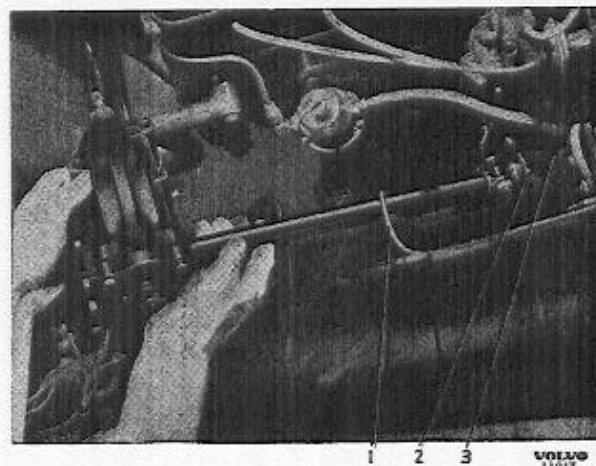

Fig. 24. Removing the steering box.
5. Lift up and turn the steering box as shown in Fig. 24. Pull out the horn lead (3) from the lower section of the steering column and steering box. Lift out the steering box but be careful when the carrier (2) is moved past the brake line (1).